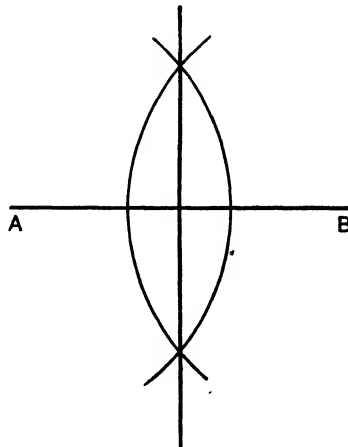

FIG. 8. BISECTION OF A LINE
**III.** The children should also discover that the crease in (2) is at right angles to the base of the triangle.
**IV.** Construction for bisection of a line, AB. The teacher shows the construction and the children practise using it, Fig. 8.